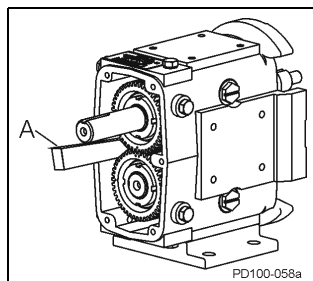

Figure 59 - Block Shaft Rotation
1. Use wood or nylon block (Figure 59, item A) to secure shafts from turning. If block is not available, use rags to block gears, or with one rotor on shaft, block rotor with nylon dowel.